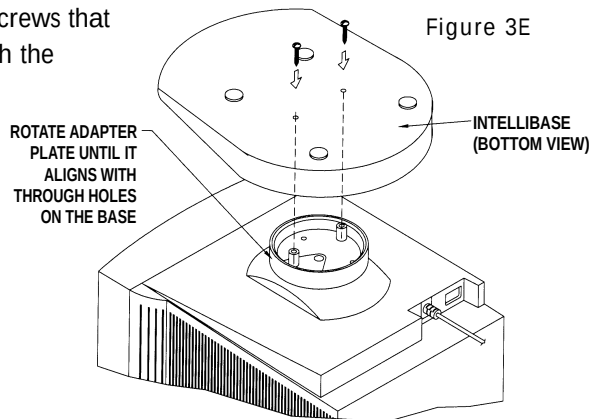

Figure 3E
Step 6 Locate the two screws that are supplied with the IntelliBase and attach the IntelliBase™ to the adapter plate and monitor as shown in Figure 3E.